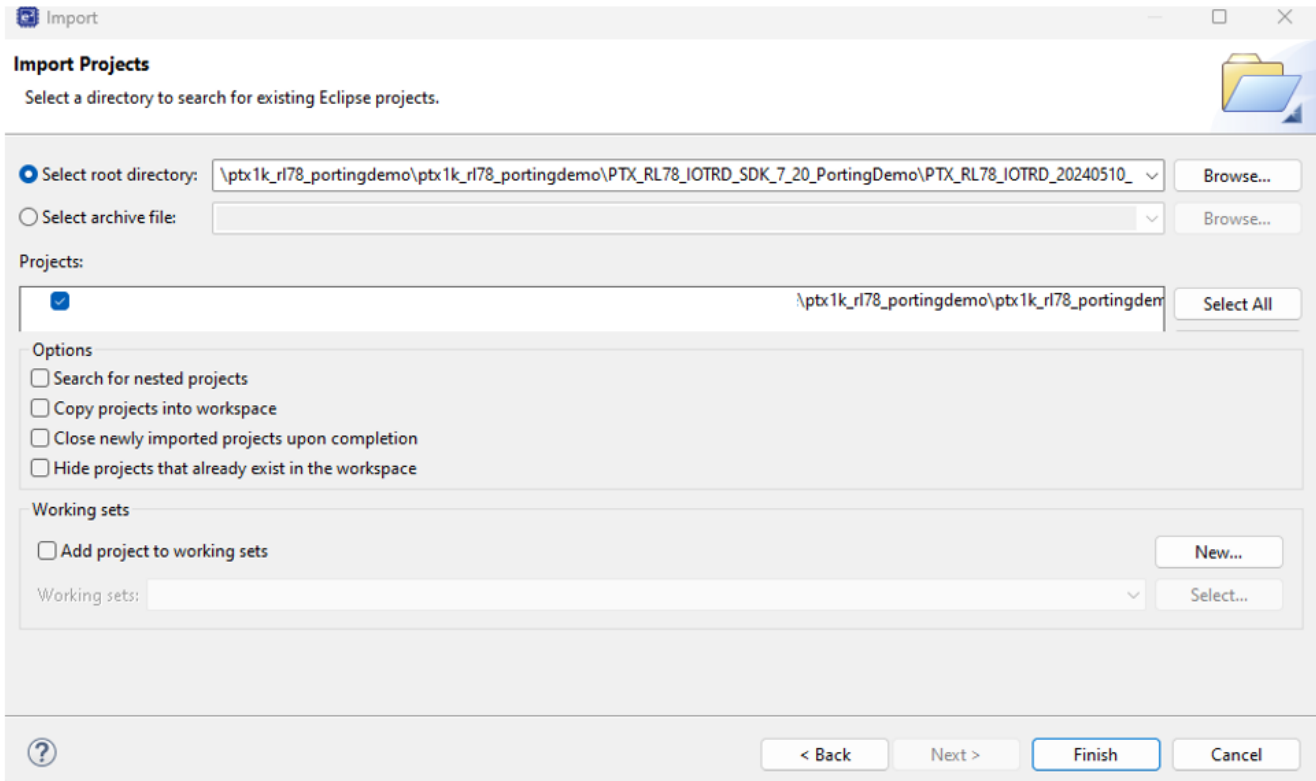

Figure 4. Browse to Project Location
5. The root directory must be selected. Click on **Browse**, navigate to **ptx1k\_rl78\_portingdemo\PTX\_RL78\_IOTRD\_SDK\_7\_20\_PortingDemo\PTX\_RL78\_IOTRD\_20240510\_** and select this folder (see Figure 4).